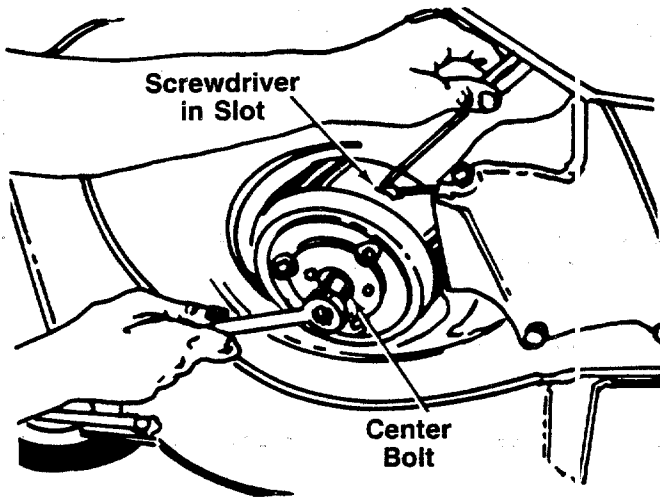

FIGURE 21.
- a. Insert a screwdriver into the slot provided in the blade brake/clutch housing where the control cable enters housing. See figure 21.